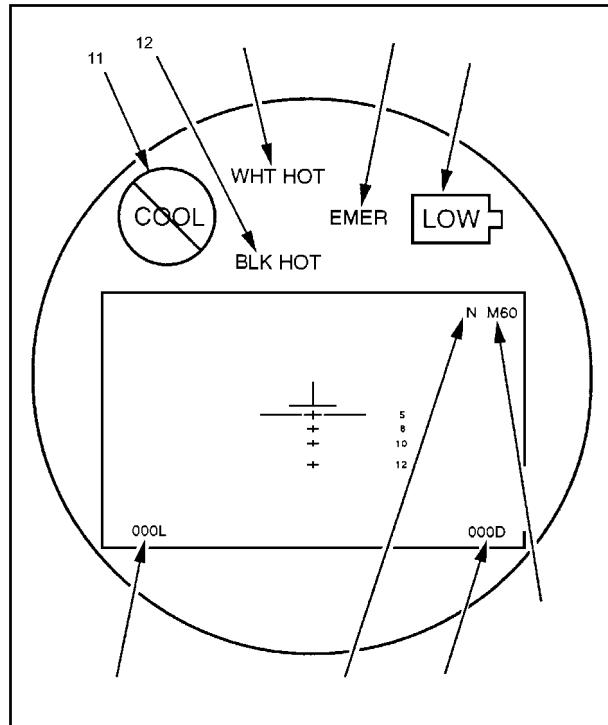

Figure F-19. Eyepiece indicators.
- (i) The EYEPIECE INDICATORS (Figure F-19) illuminate as follows: